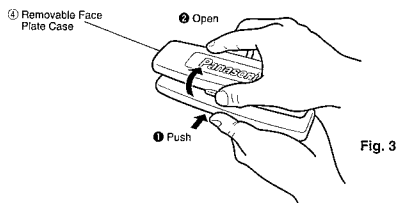

Fig. 3
- As shown in Fig. 3, gently push the lower side of the case and open its cover. Keep the face plate in the case. Then, you can bring the plate safely.